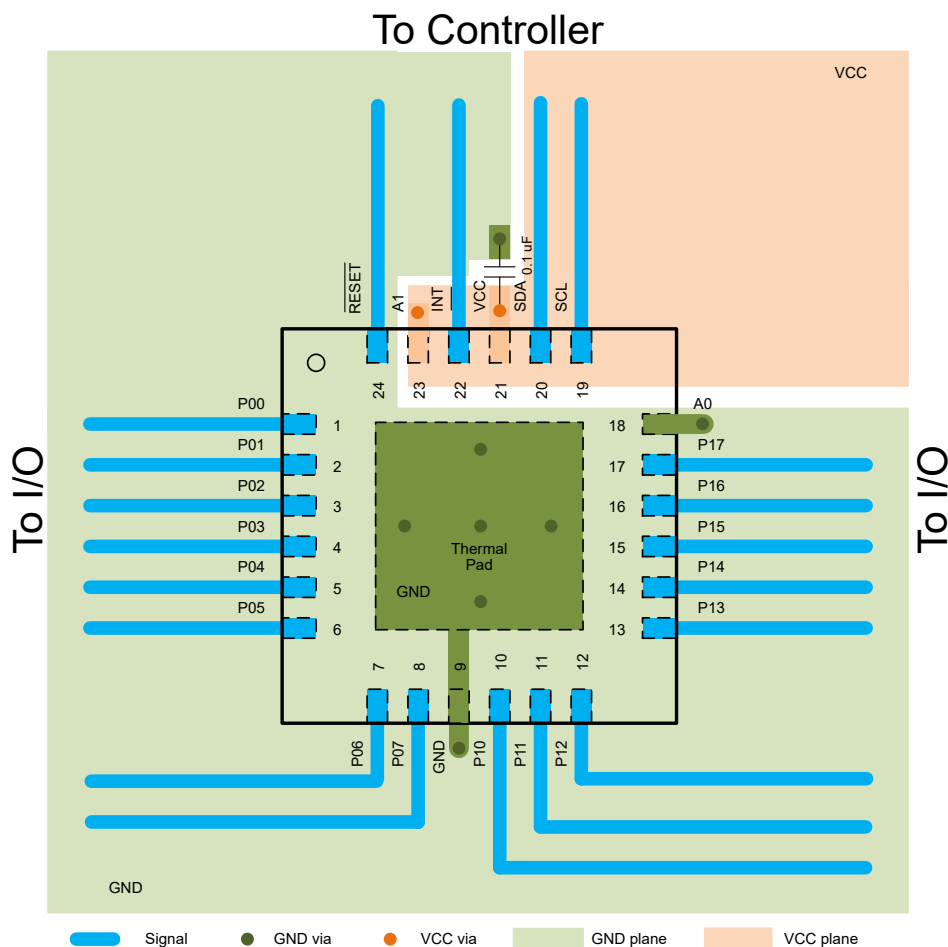

Figure 8-9. TCAL6416 Layout
It is a best practice to avoid right angles in signal traces, to fan out signal traces away from each other upon leaving the vicinity of an integrated circuit (IC), and to use thicker trace widths to carry higher amounts of current that commonly pass through power and ground traces in all PCB layouts. Bypass and decoupling capacitors are commonly used to control the voltage on the supply pins. Using a larger capacitor provides additional power in the event of a short power supply glitch, and using a smaller capacitor filters out high-frequency ripple. These capacitors should be placed as close to the TCAL6416 as possible. Figure 8-9 shows these best practices.
For the layout example provided in Figure 8-9, it is possible to fabricate a PCB with only 2 layers by using the top layer for signal routing and the bottom layer as a split plane for power and ground (GND). However, a 4 layer board is preferable for boards with higher density signal routing. On a 4 layer PCB, it is common to route signals on the top and bottom layer, dedicate one internal layer to a ground plane, and dedicate the other internal layer to a power plane. In a board layout using planes or split planes for power and ground, vias are placed directly next to the surface mount component pad which needs to attach to power or GND and the via is connected electrically to the internal layer or the other side of the board. Vias are also used when a signal trace needs to be routed to the opposite side of the board, but this technique is not demonstrated in Figure 8-9.